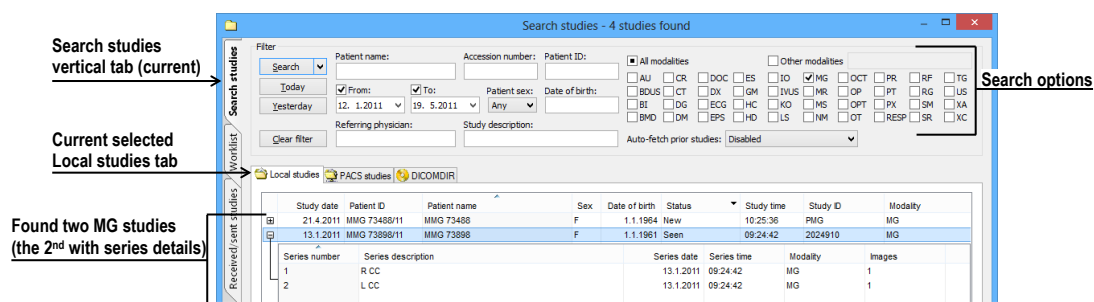

Figure 373 – Opened patient study from the Local studies
- Finding and opening a required study stored in the local studies of TomoCon (see Figure 373) by taking the following steps: